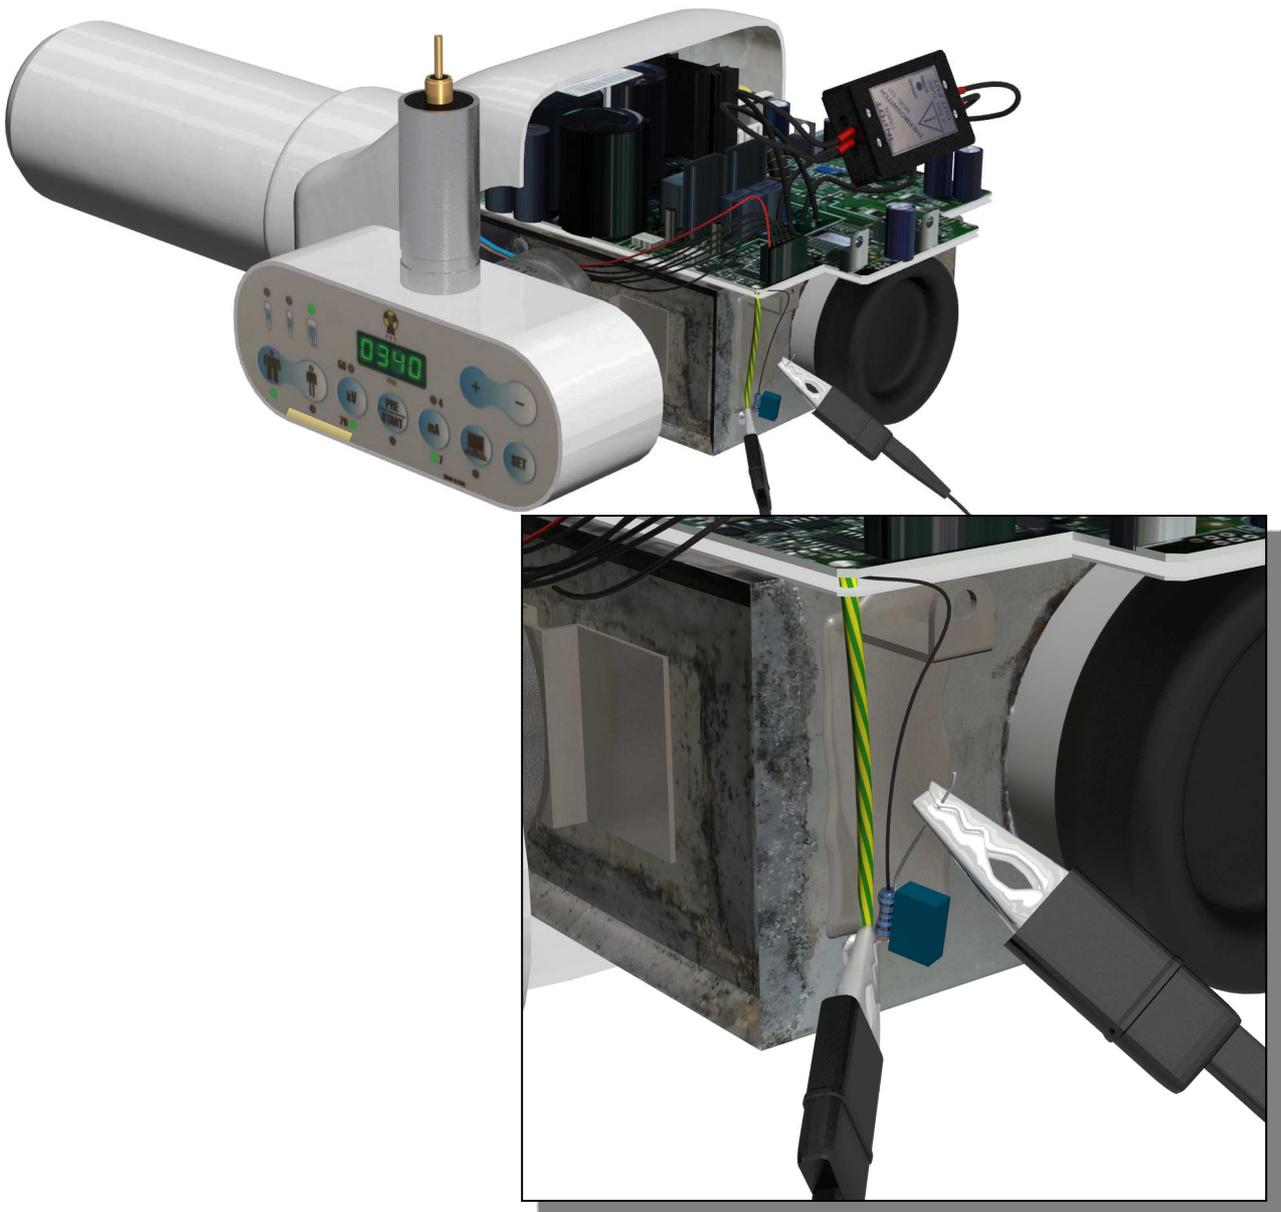

fig. 27
- ✓ After removing the back cover, making reference to fig.27, connect oscilloscope / tester terminals across the resistor to  $1K\Omega$ .
It is necessary to set the full scale of the multimeter in an appropriate manner in order to measure the voltage across the resistance; then after positioning the end sleeves of the multimeter across the resistor (as shown previously in fig.27) set an exposure time long enough to allow the multimeter to read this voltage (the order of magnitude of the exposure is approximately 1 sec). The value that is expected to read is like in the previous case of about 7 V / 4 V depending on the current value set on the timer (to each V corresponds 1 mA)